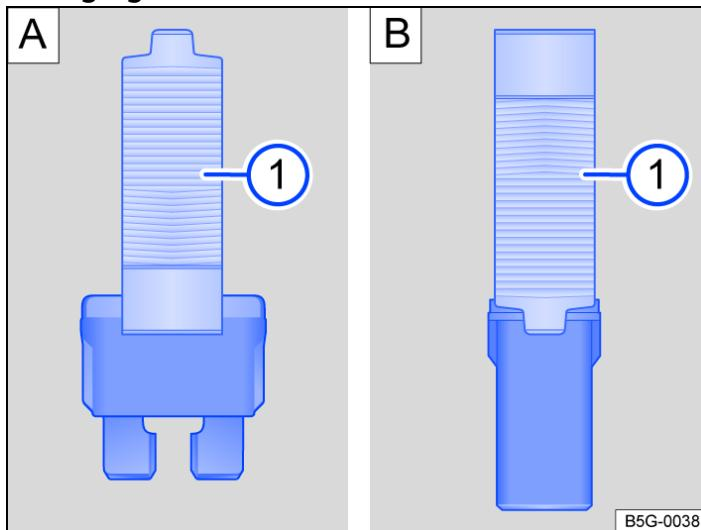

Fig. 2 Removing or inserting fuse with plastic grippers (illustration).
① Plastic grippers.
1. If applicable, take the plastic grippers out of the fuse box or the cover of the respective fuse box → Fig. 2 ①.
2. Push the plastic grippers clip suitable for the fuse design onto the fuse from the top or the side → Fig. 2.
4. If the fuse has blown, replace it with a new fuse of the *same* amp rating (same colour and same markings) and *same* size → ①.
① NOTICE